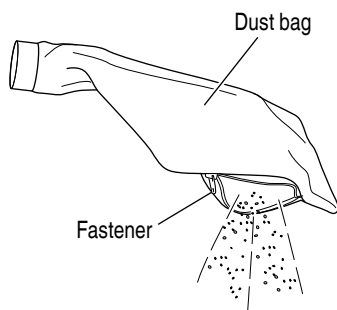

Fig. 19
1. Emptying and cleaning the dust bag (Fig. 19)